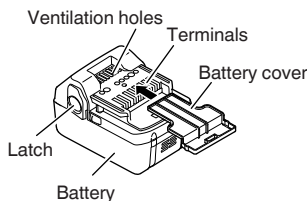

Fig. 9
- **Either install the battery in the power tool or store by securely pressing into the battery cover until the ventilation holes are concealed to prevent short-circuits (See Fig. 9).**
Hold the handle tightly and push the battery latches to remove the battery (see Fig. 9, 10).